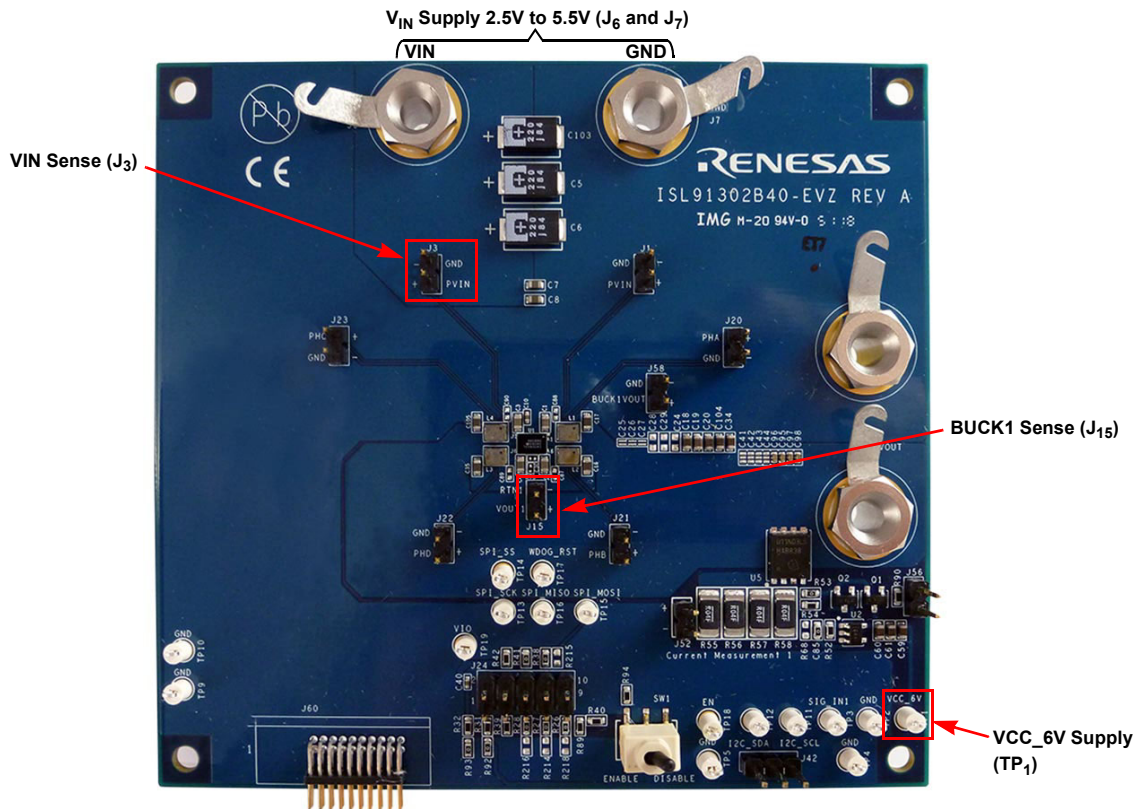

Figure 11. ISL91302B40-EVZ Efficiency Measurement Connections
- (1) Connect a power supply at J6 (VIN supply), with the voltage setting between 2.5V and 5.5V. Set its current limit high enough to support the maximum load current with additional headroom. If the power supply supports remote sense lines, use a Kelvin connection on J3. Otherwise, connect a multimeter at J3.
- (2) Apply 6V to TP1 (VCC\_6V) to initiate the startup sequence.
- (3) Turn on the electronic load at VOUT1. The connection should be made at J35 (VOUT1). Make sure the load current does not exceed 5A per phase, and the correct wire gauge is used when attaching the electronic load.
- (4) Measure the output voltage with a multimeter. The voltage should regulate within datasheet specification limits.
- (5) To determine efficiency, measure input and output voltages at the Kelvin sense test points (S+ and S-), which are located at J3 (VIN SENSE) and J15 (BUCK1 SENSE). Measure the input and output currents from the VIN power supply and the electronic load. Calculate efficiency based on these measurements. For detailed setup information, refer to Figure 11 on page 11.